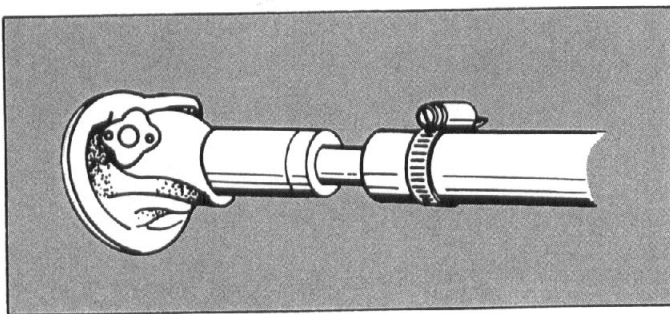

Figure 11. Weight attached to shaft to determine drive line balance.
3. Unbalanced drive lines can cause vibration that occurs throughout the speed range of vehicle and varies in intensity with change of speed. The drive line may be at fault in respect to balance and concentricity. A quick field check to determine drive line balance can be made by securing a small piece of metal or similiar weight with a hose clamp to the front of the tube where the splined shaft is welded, Figure 11. Road test the vehicle and continue to move the weight around tube until balance point is found and vibration disappears, or is minimized.